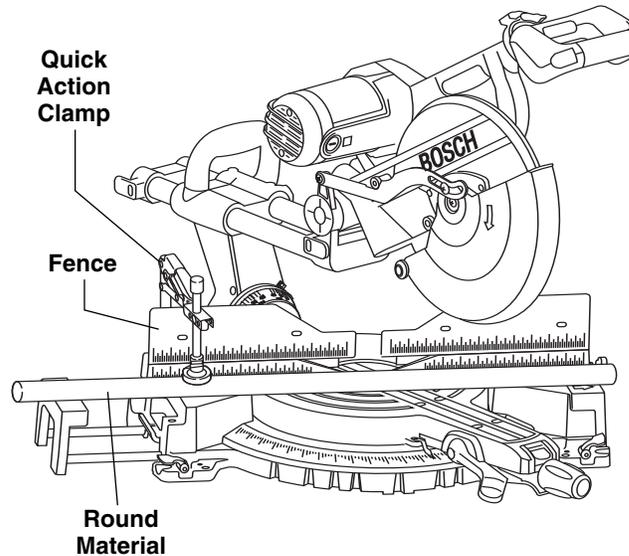

Figure 2. Round Material
**WARNING** For round material such as dowel rods or tubing, always use a clamp or a fixture designed to clamp the workpiece firmly against the fence and table. Rods have a tendency to roll while being cut, causing the blade to “bite” and pull the work with your hand into the blade (Figure 2).